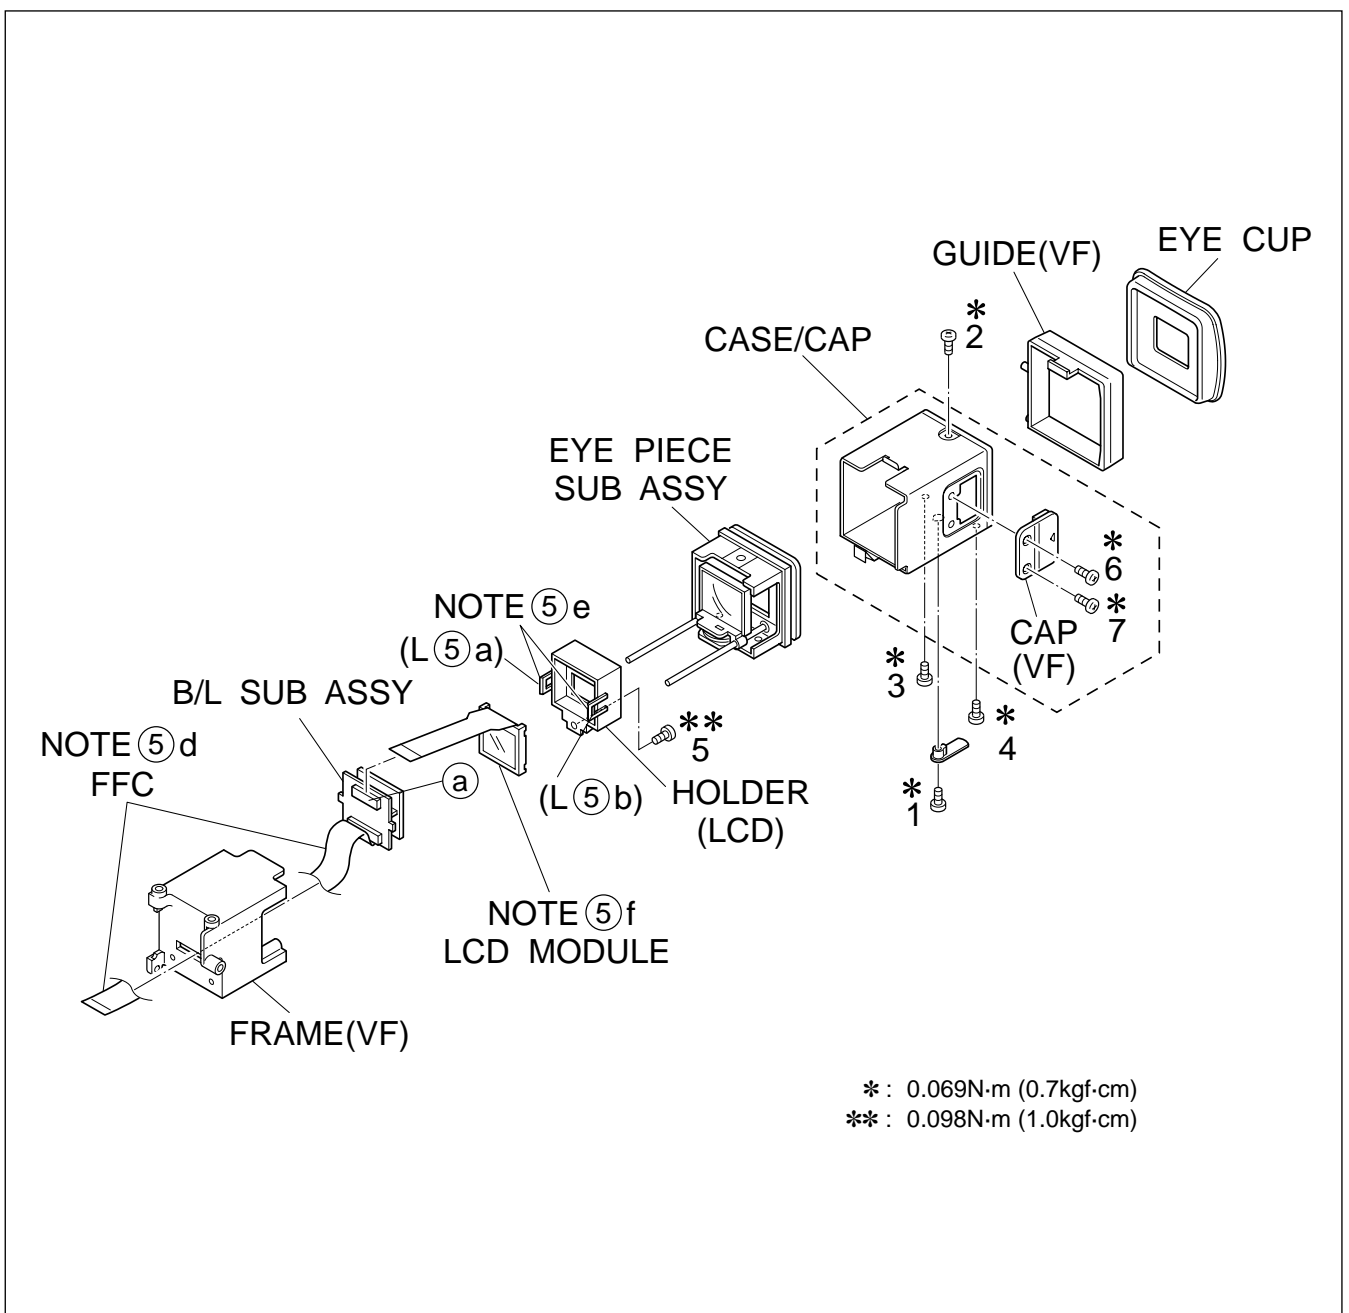

Fig. 1-5-1
**Note⑧:** Be careful not to get an electric shock during the work.
**Note⑨:** When reassembling, carefully arrange the wire.
**Note⑩a:** When disassembling/reassembling, be careful not to damage any part.
**Note⑩b:** When reassembling, set the bracket (top) as the VF unit is pulled out, and secure the installation in order of (L⑩a) and (L⑩b).
**Note⑩c:** For disassembling method, refer to Fig. 1-5-1.
**Note⑫a:** When disconnecting the connector, carefully handle the FPC on the top of the connector.
**Note⑫b:** Disconnect the connector ⑮ last, because it is positioned inside.
**Note⑬:** When reassembling, carefully locate the FPC so that it is sandwiched between the mechanism assembly and MAIN board assembly.